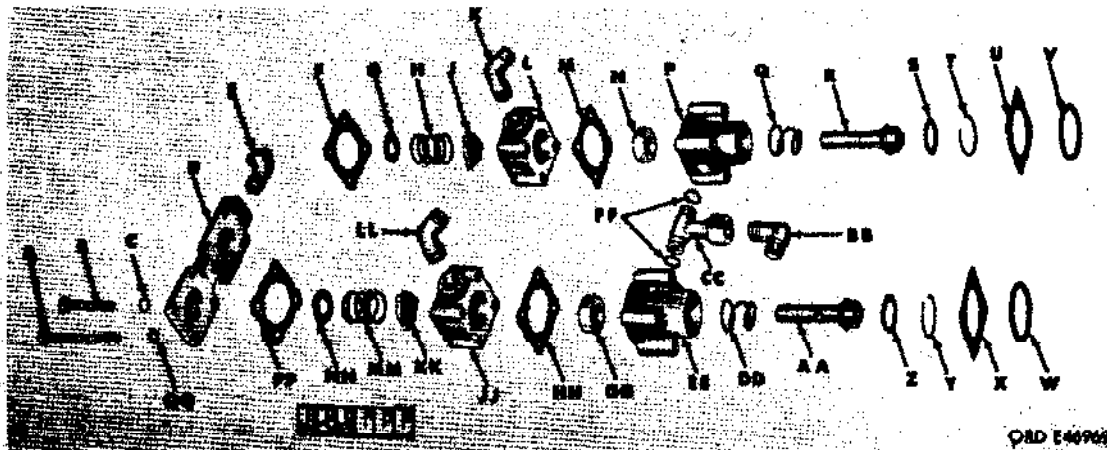

Figure 210. Shift air cylinder control valve - exploded view
Directly opposite from each of the four mounting cap screws, are four hex-head cap screws (B, fig. 210). Remove cap screws.
- (b) Disassemble shift air cylinder control valve (fig. 210). The air inlet housing will be loosened from the two air inlet bodies when the cap screws ((a) above) are removed. The two bodies are identical in construction and disassembly procedures given here apply to both. If the outer body does not readily separate from the inner body, install cap screws ((a) above) halfway into the body section. Hold body section in hand with screw